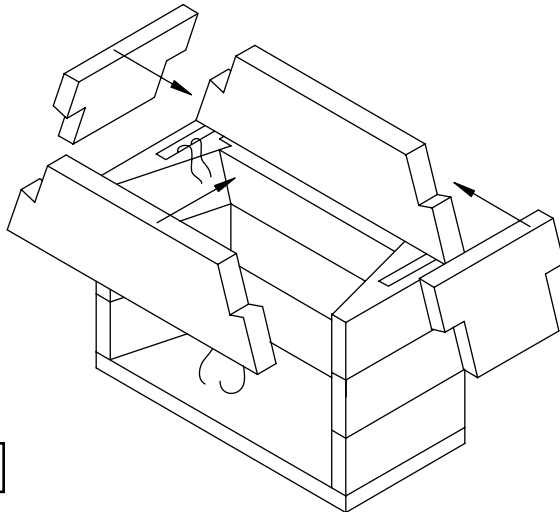

Figure 11
**Step 8:** Position the smoke dome's sloping sidewalls at each end of the bottom smoke dome components (Figure 11). The sloping sidewalls fit in between the front and rear smoke dome components and also fit into the haunches at the ends of the front and rear smoke dome components. The smoke dome sloping sidewalls have a beveled bottom edge so that they will sit tight onto the flat top of the firebox side walls.